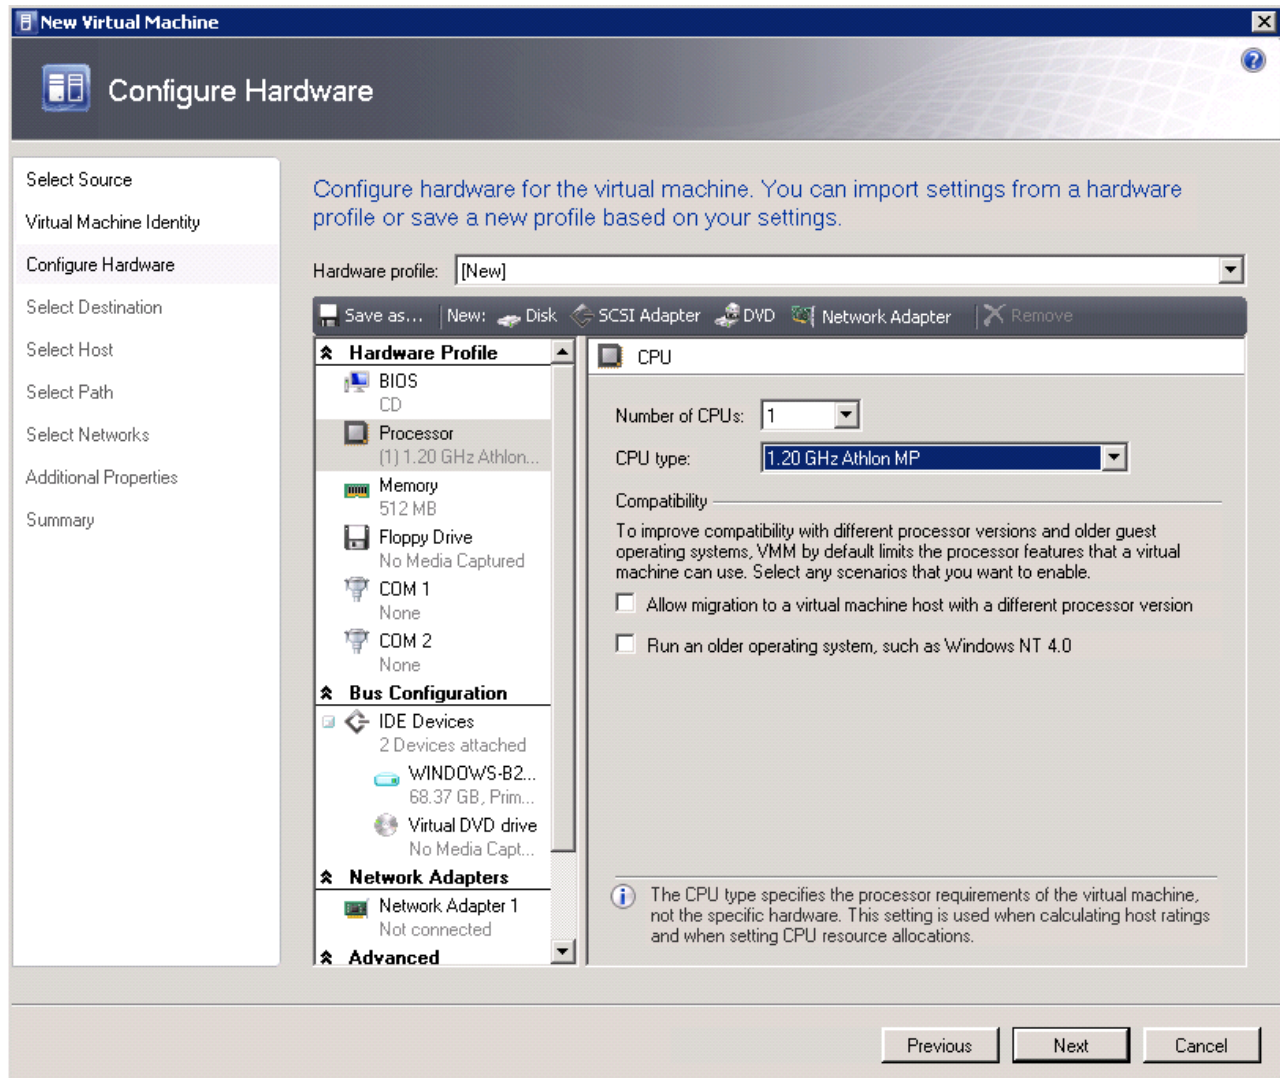

Figure 3-15 New Virtual Machine wizard: Configure Hardware
11. In the Configure Hardware window, configure the virtual hardware information about the destination server according to the source physical machine, as shown in Figure 3-15.